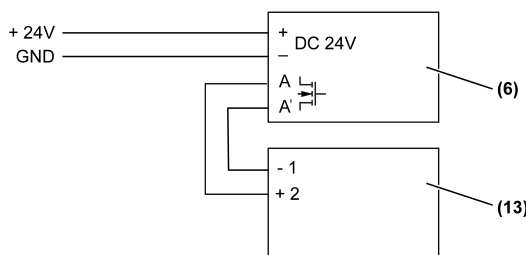

Figure 11: Connection to Valve drive (motor-operated) with controller
| (Figure 11) | (13) Valve drive (motor-operated) with controller, Art. no.: 2177SVR |